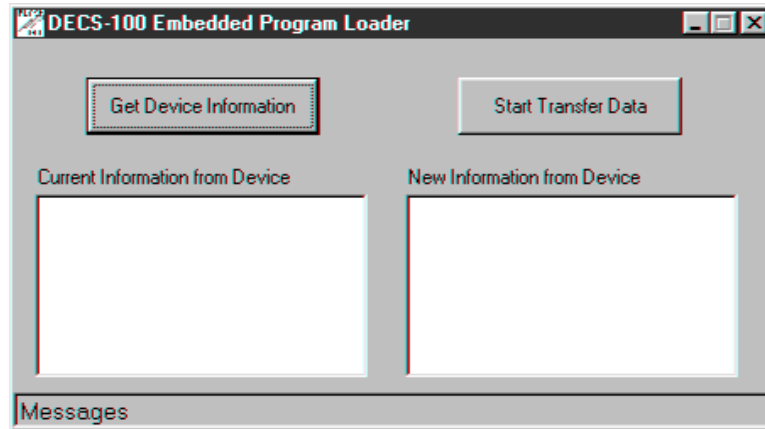

Figure 5-22. DECS-100 Embedded Program Loader
3. Click **Yes** to proceed with software uploading. When **Yes** is clicked, the Communication Initiation screen (Figure 5-4) appears. Select the active communication port for your PC and click the **Initialize** button. BESTCOMS obtains the configuration settings from the DECS-100 and saves all settings. When the saving of settings is complete, the DECS-100 Embedded Program Loader of Figure 5-22 appears.